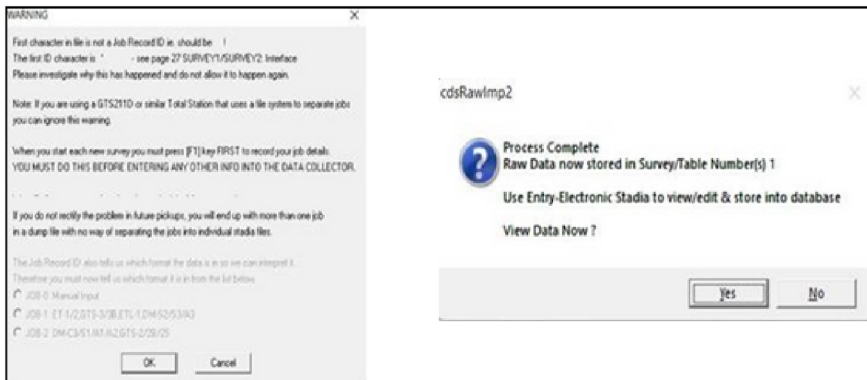

Figure 4.1: Warning appears when CDS New File is registered Sources; (Manual-Topographic Survey By Total Station by Civil Design)
- vi. The warning will be shown as below. Clicked OK and YES, then it will show the topography surveying result as shown in Figure 4.1.